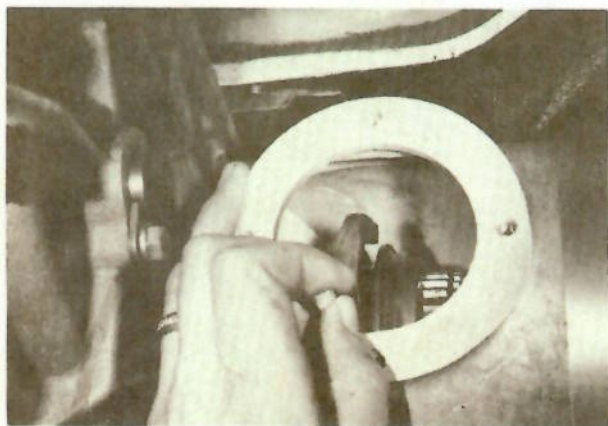

FIG. 27 — INSTALLING SHIFT FORK ON SLEEVE OF SYNCHRONIZER ASSEMBLY.
54. Install the shift fork (P/N 4142) on the sleeve of the synchronizer assembly (P/N 1020), (Fig. 27).